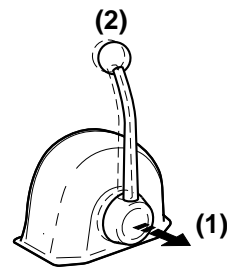

Figure 17
When the lever is pulled out (Figure 17, (1)), the engine speed can be controlled without engaging the clutch. The clutch remains in NEUTRAL, no load position. Turn the knob (Figure 17, (2)) counterclockwise to move the lever or clockwise to lock the lever.